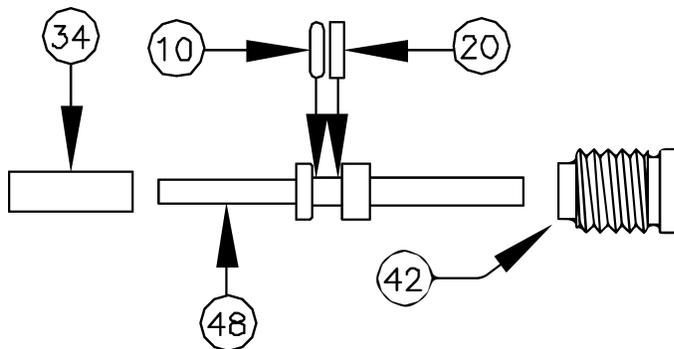

FIGURE 17
REPLACEMENT OF RELIEF ROD SEAL (SEE FIGURE 17):
2. Place backup washer 20 and O-ring 10 in the ring groove of the relief rod. **CAUTION:** Note placement of seal and backup washer. Place relief rod spring 34 on the lower end of the rod (see Figure 17 for correct order of installation).